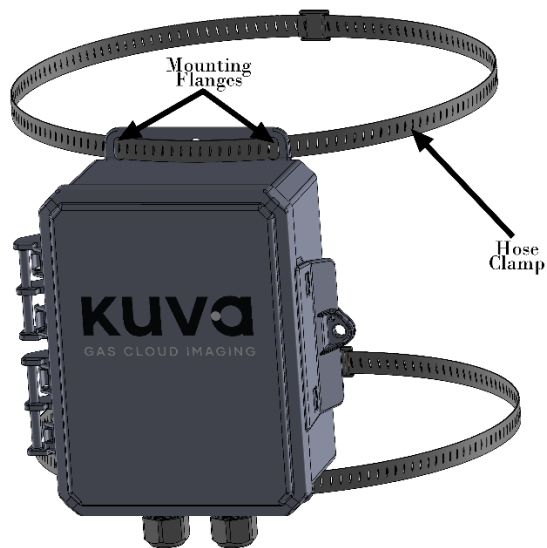

Figure 86 Hose clamp installation
2. Feed the hose clamp through slots in corners of Power Box mounting flange at the top of the Kuva power box as per Figure 86. Repeat with the second hose clamp at the bottom of the Kuva power box.